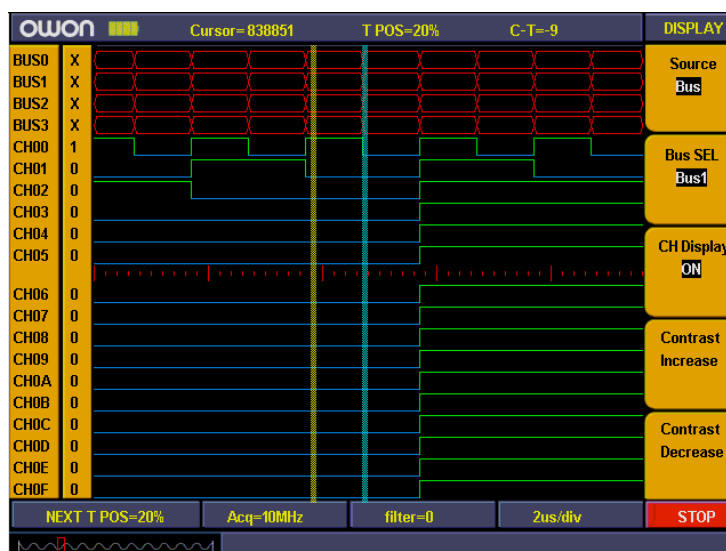

Fig.14
7. Press "**F3**" and set signal sources as "**OFF**". Repeat operation of steps 6.7 and set BUS1、BUS2、BUS3 all as "**OFF**". Ref to Fig.14